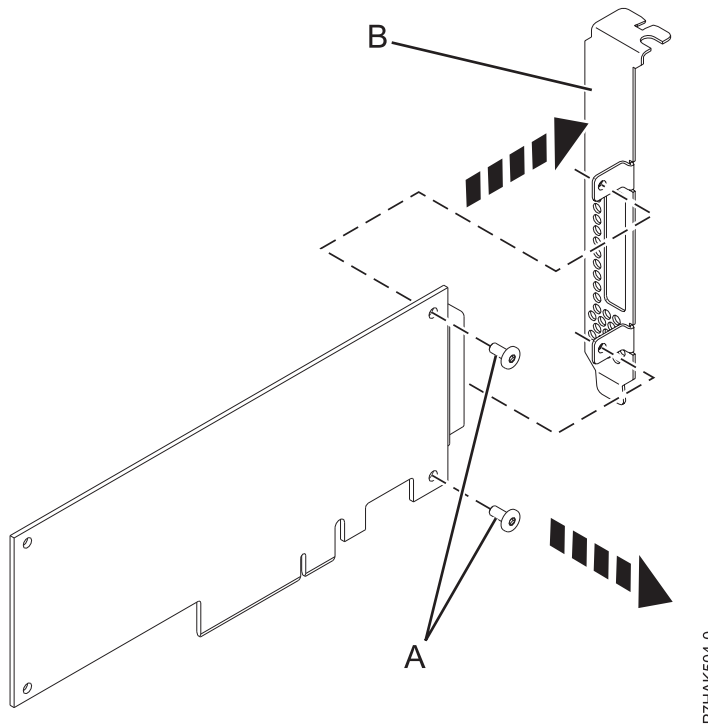

Figure 38. Removing the high-profile tailstock from a new PCIe adapter
8. Using a Phillips screwdriver, unscrew the two retaining screws (A) that attach the high-profile tailstock (B) to the new PCIe adapter, as shown in Figure 38.